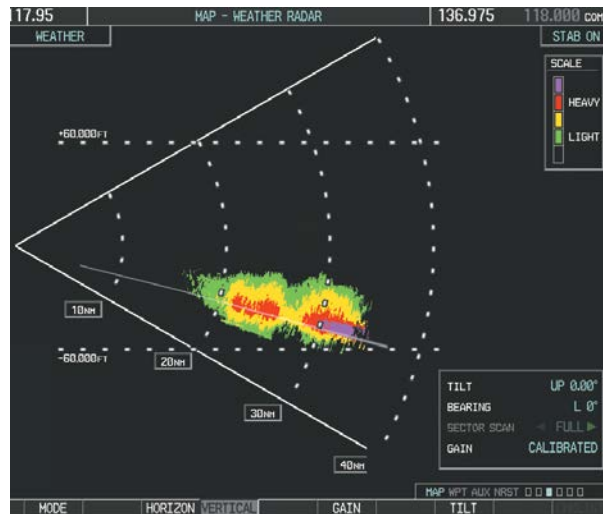

Figure 6-56 Vertical Scan Display
- 4) Press the **VERTICAL** Softkey. A vertical scan of the selected area is displayed (Figure 6-56).